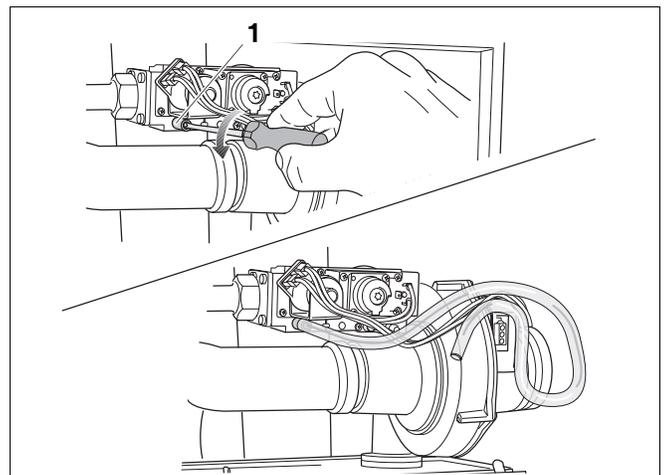

Fig. 53 Bleeding the gas flow pipe
- Open the screw plug on the testing nipple of the gas supply pressure and for purging (fig. 53, pos. 1) by 2 turns and install a hose.